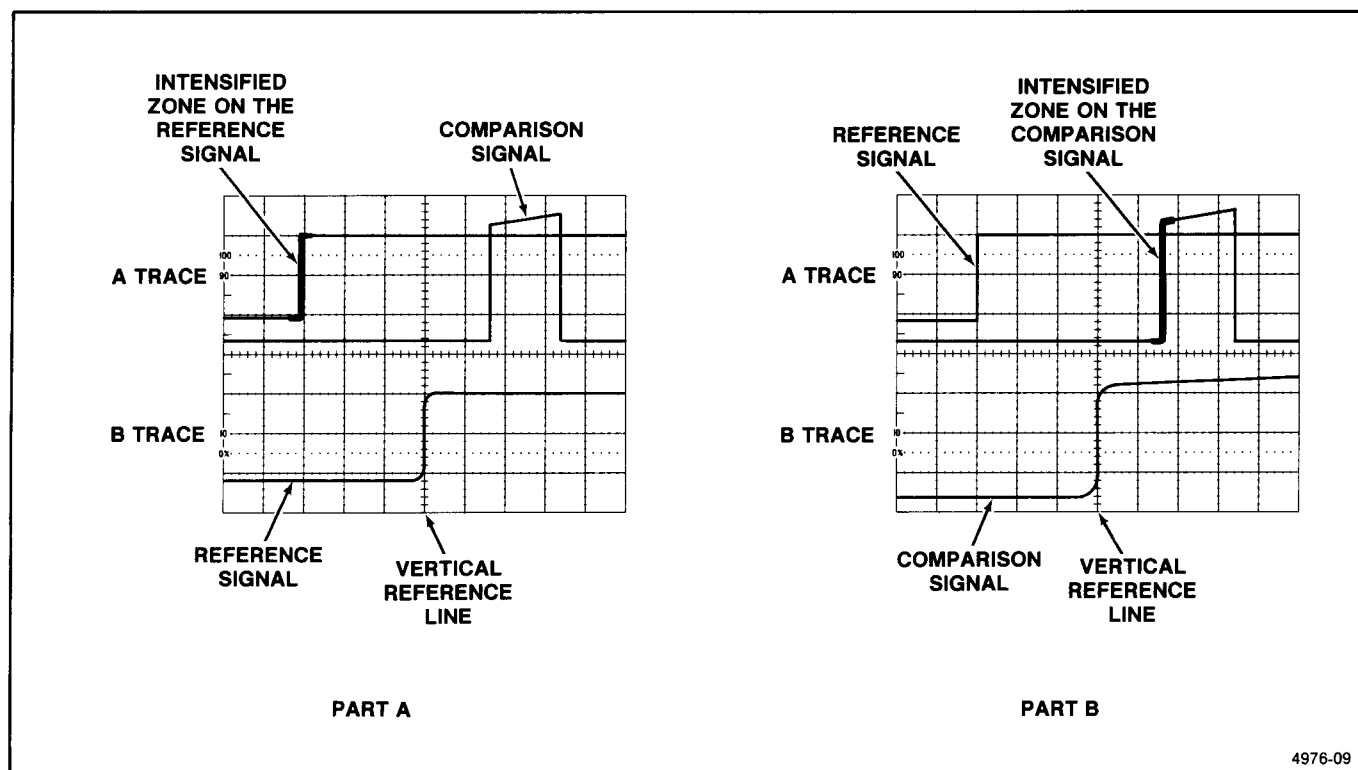

Figure 4-16. Time difference between two pulses on two time-related signals.
6. Rotate the B DELAY TIME POSITION control to move the intensified zone to the appropriate edge of the reference signal (on the A trace); then fine adjust until the edge of the reference signal (on the B trace) is centered at any convenient vertical graticule line (see Figure 4-16, Part A).
9. Rotate the B DELAY TIME POSITION control to move the intensified zone to the appropriate edge of the comparison signal (on the A trace); then fine adjust until the edge of the comparison signal is at the same vertical reference point as used in preceding step 6 (see Figure 4-16, Part B). Do not change the setting of the Horizontal POSITION control.